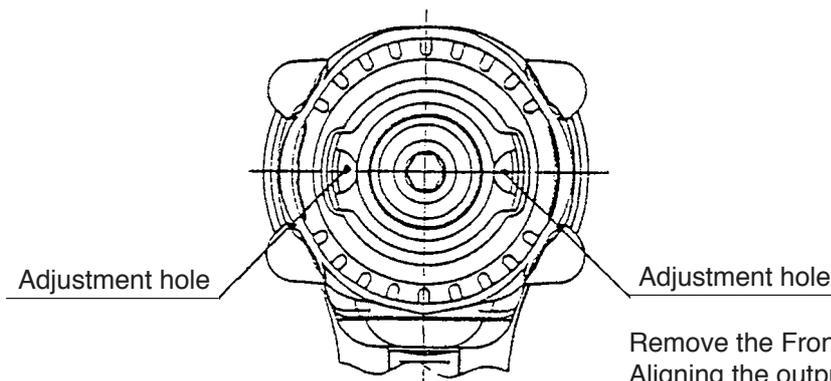

Fig. 2
| <p>Check the Oil Pulse Set [16] for abnormality and adjust it if abnormal.</p> | <div style="border: 1px solid black; padding: 5px;"> <p>Set an ammeter as shown in Fig. 1. Operate the Model WP 12DM on a fully charged DC 12 V battery to measure the current required for tightening five wood screws 120 mm in length into hemlock spruce. Check: Current required for tightening ... 30.0 A to 34.0 A</p> </div> <p style="text-align: center;">OK ↓ NG ↓</p> <div style="border: 1px solid black; padding: 5px; margin-left: 20px;"> <p>End</p> </div> <div style="border: 1px solid black; padding: 5px; margin-left: 150px;"> <p>Remove the Front Cap [5] as shown in Fig. 2. Aligning the output adjustment valve with the adjustment hole of the Hammer Case [9], turn it using a 1.5-mm hexagonal wrench to adjust the current for tightening screws.</p> <ul style="list-style-type: none"> ● When the current is small: Turn the output adjustment valve clockwise. ● When the current is large: Turn the output adjustment valve counterclockwise. [Table 1 shows the relationship between the turning angle of the output adjustment valve and the current for tightening screws as an index of adjustment.] </div> <p style="text-align: center;">↓</p> <div style="border: 1px solid black; padding: 5px; margin-left: 150px;"> <p>It cannot be adjusted even though the output adjustment valve is fully closed.</p> </div> <p style="text-align: center;">↓</p> <div style="border: 1px solid black; padding: 5px; margin-left: 150px;"> <p>Replace the Oil Pulse Set [16].</p> </div> |
- Table 1 shows the relationship between the turning angle of the output adjustment valve and the current for tightening screws as an index of adjustment. Figures 2 and 3 show the position of the output adjustment valve.